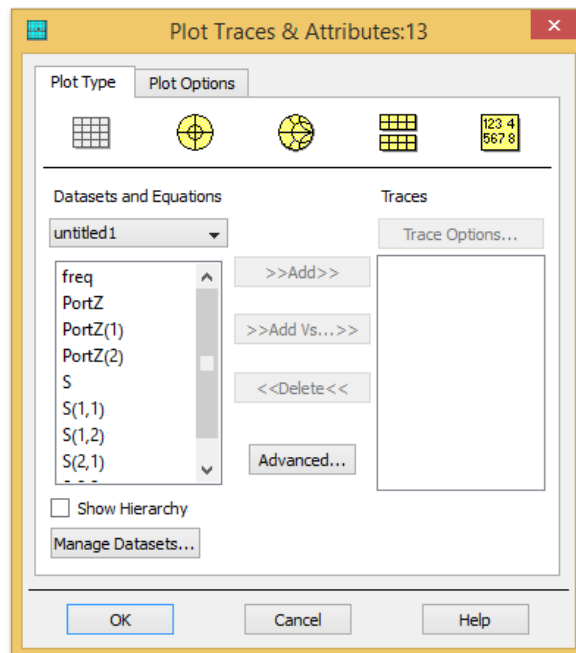

Figure 3: Plot Traces & Attributes Window
- (o) To create and place new plots, choose **Insert → Plot**. Move the cursor over the blank page and click to insert the new plot. The **Plot Traces & Attributes Window** will open from which the plot type (**Rectangular, Polar, Smith Chart, List**) can be selected and the variables to be plotted can be chosen as shown in figure 3